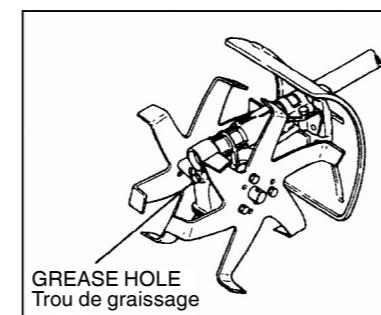

Fig. 12
- f. Supply proper amount of lithium-based grease, such as Shell Aluvania grease R2, Shell Aluvania EP grease 2, Mobile- Mobilux EP2 or equivalent after every 25 hours of use: (Fig. 12)